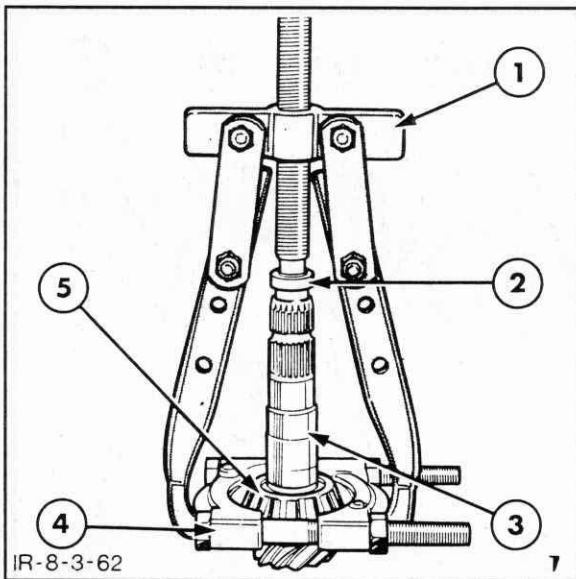

Figure 7-125
5. Inspect the pinion bearings. Where necessary, remove the inner bearing inner race using tool nos. 951 and 1003 (9190 and 9516), Figure 7-125. Note that there is a shim positioned between the pinion inner bearing and the head of the